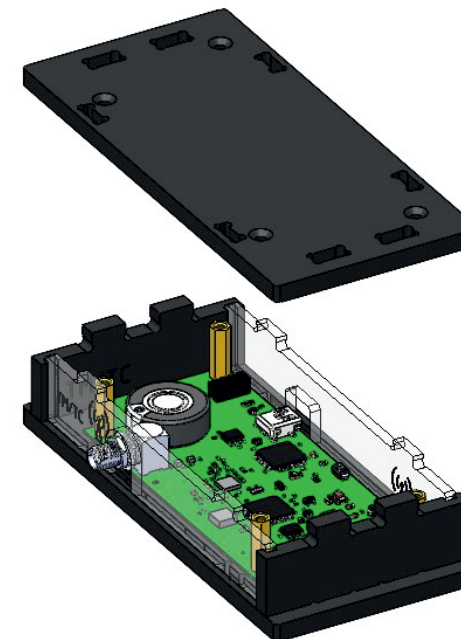

Fig. 78: Installing the top cover
4) Attach the top cover (marked as “UHF↑”) to the assembled housing. To do that, align holes in the top cover with protrusions of two side walls and two transparent panels and latch them by applying some force (Fig. 78):